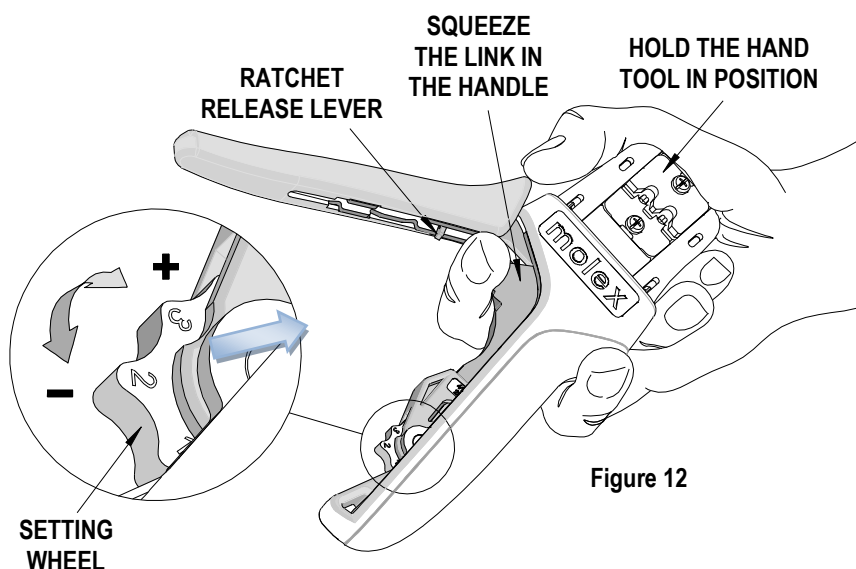

Figure 12
How to Adjust Tool Preload (See Figure 12)
1. Hold the hand tool in the palm of your hand as shown in Figure 12. Using the index finger squeeze the link towards the top of the hand tool frame. This will release the preload adjustment wheel.
2. Rotate the setting wheel counter-clockwise (CCW) to increase handle force. The numbers will display higher. To decrease handle force rotate the setting wheel clockwise (CW).